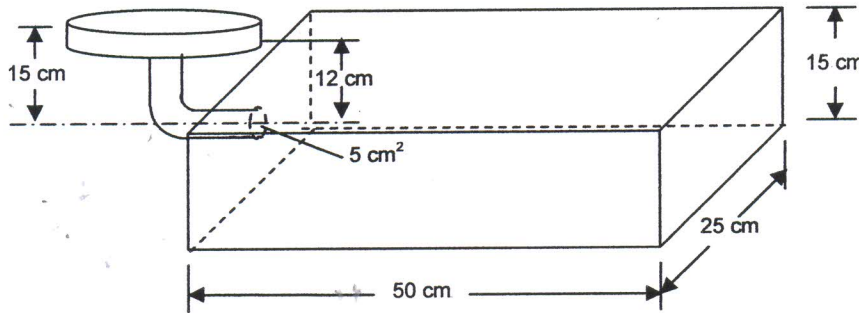

Figure 2.1
- a) The gating design for a mold of 50 cm x 25 cm x 15 cm is shown in Fig. 2.1. The cross-sectional area of the gate is 5 cm2. The liquid being poured is molten Ferum with the properties  $\rho_m = 7800 \text{ kg/m}^3$ , kinetic viscosity  $\eta = 0.00496 \text{ kg/ms}$  for the 90° turn at the end of the sprue,  $(L/D)_{eq} = 25$ . Determine the filling time of the design.